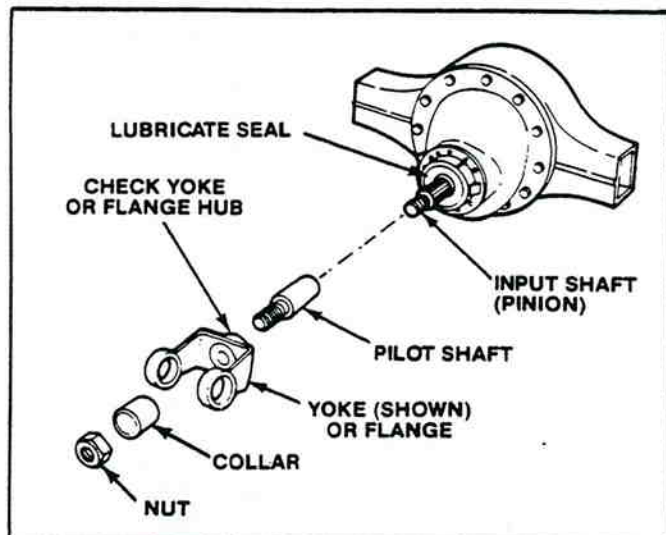

Figure 2-39. Installing Yoke Or Flange Using Pilot Tool.
3. Install the pilot shaft on the input shaft of the assembly (Figure 2-39).